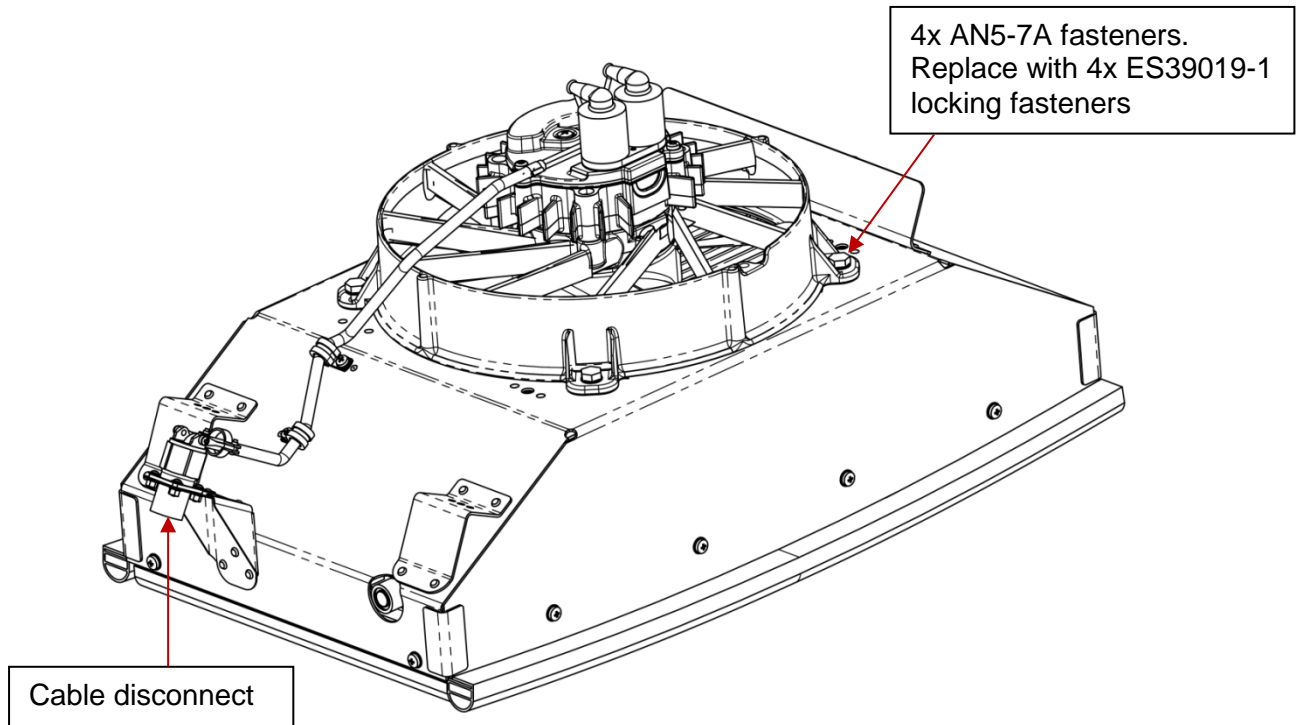

Figure 1
3. Remove the condenser blower assembly from the condenser assembly by removing 4x AN5-7A fasteners and disconnecting the cable. See Figure 1 for location of AN5-7A fasteners and cable disconnect.